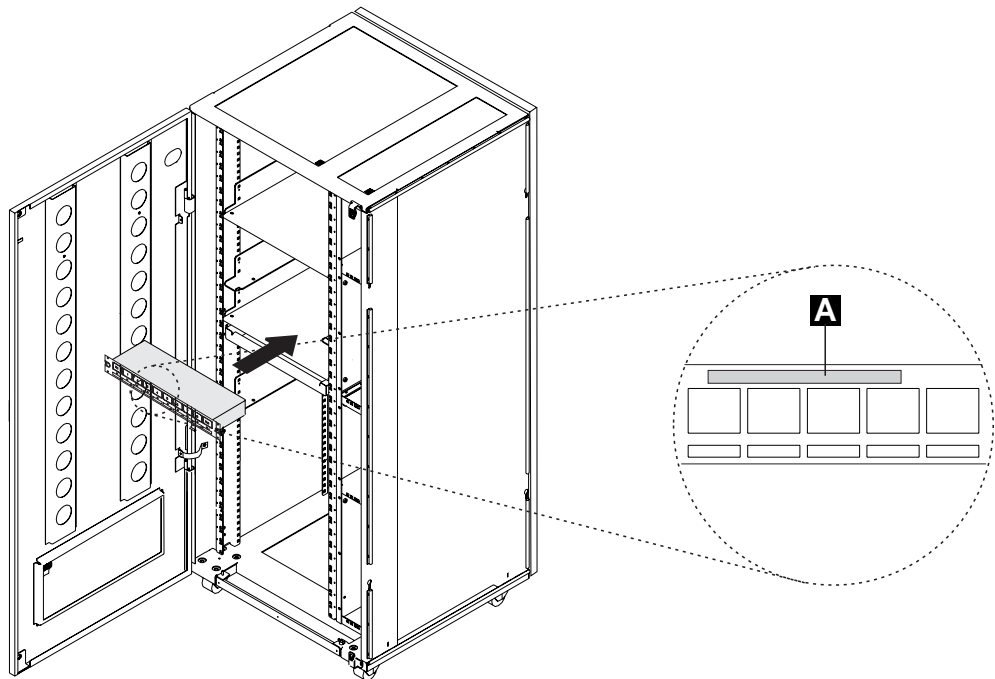

Figure 1-39. Installing the 8228 (Controller Expansion Rear side)
6. ____ Install the 8228 in a safe place near the service processor. If you received a controller expansion, the 8228 is installed on the rear side of the controller expansion using two screws (PN 1621232) and two captive nuts (PN 58G5766) see Figure 1-39. Using label **A** (PN 80G0680), identify the 8228 as Service Processor Access Unit.